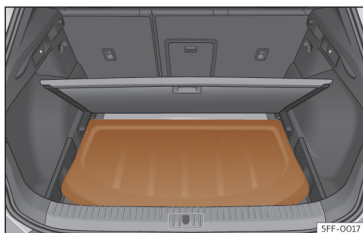

Fig. 178 In the boot: fitting the rear shelf.
- Place the rear shelf in the corresponding housing >>> **Fig. 178**.